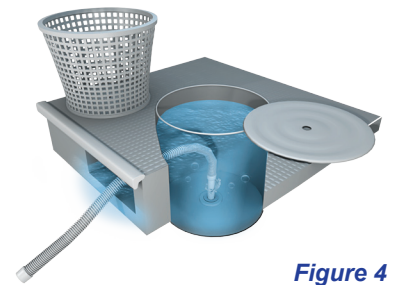

Figure 4
3. Insert **Control Valve Adaptor** to hole in skimmer to ensure a good connection/snug fit. Then insert the **Flow Control Valve** into the **Control Valve Adaptor** as shown in **Figure 4**. If there are two holes at the bottom of the skimmer, place it into the one at the back (the hole farthest from the opening in the skimmer).